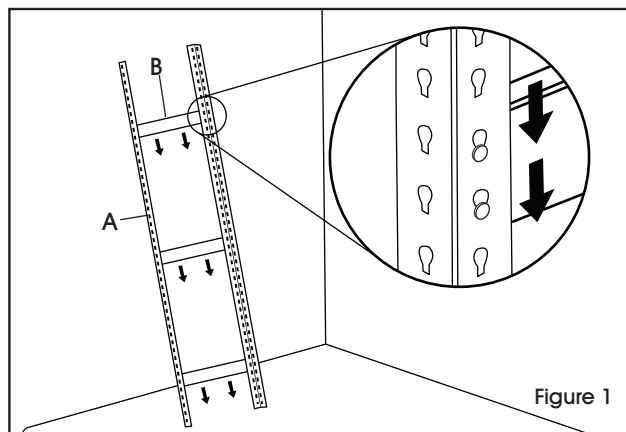

Figure 1
1. Connect two upright posts (A) by inserting three side supports (B) into the posts. (See Figure 1)
2. Repeat step one for the other two upright posts (A), making sure the side supports (B) are seated at the same levels as the first upright post assembly.